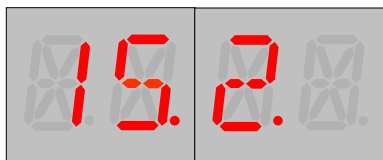

Figure 8c: Navigate to desired Bit.
- 3. Navigate to the desired Bit Number (UP, DOWN). See **Figure 8c**.